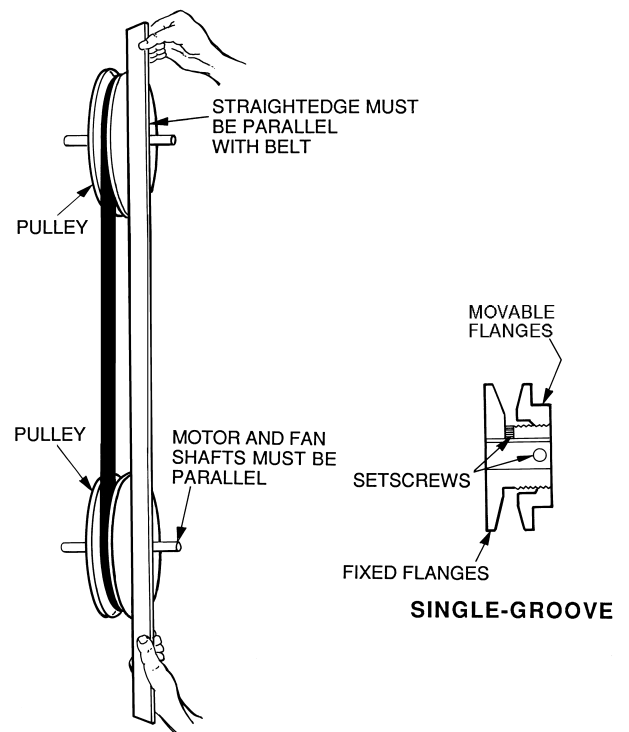

Fig. 29 — Evaporator-Fan Alignment and Adjustment
- Loosen movable-pulley flange setscrew (see Fig. 29).